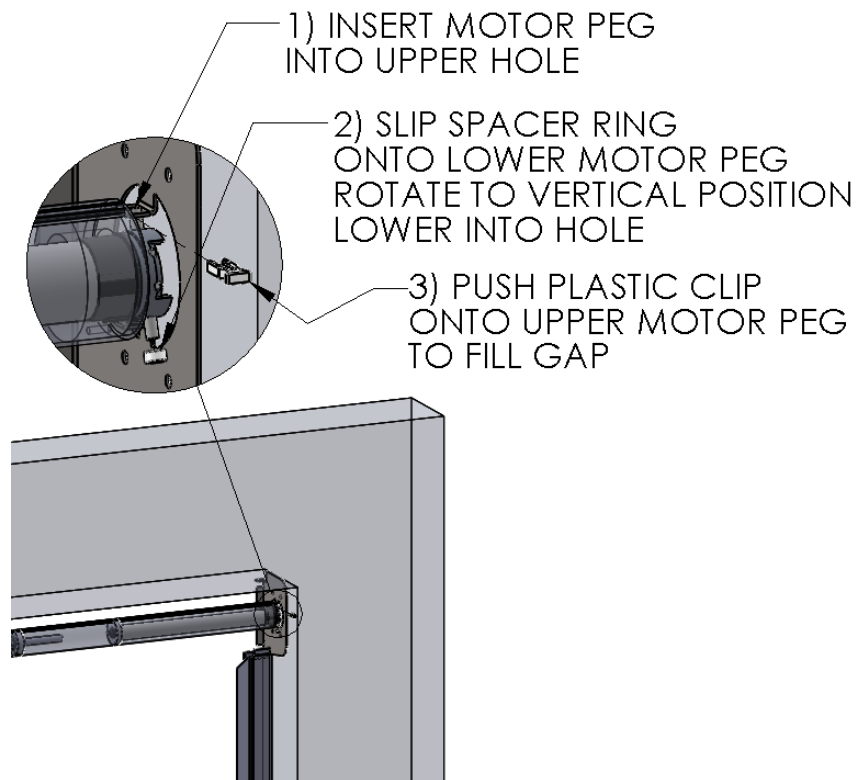

Figure 4 INSTALL MOTOR SIDE OF ROLL ASSEMBLY
**NOTE:** Use two (2) people, and two ladders at minimum, to install the Header Assembly.
2. At the right side, insert the Upper Motor Peg fully into upper hole of R.H. Header Mounting Bracket. (Figure 4 INSTALL MOTOR SIDE OF ROLL ASSEMBLY)
3. Slip the plastic Ring onto Lower Motor Peg, then insert the Lower Motor Peg into the lower hole on the Header Mounting Bracket. (Figure 4 INSTALL MOTOR SIDE OF ROLL ASSEMBLY)
4. Insert the plastic Clip onto the Upper Motor Peg to fill space between the Bracket and Motor. (Figure 4 INSTALL MOTOR SIDE OF ROLL ASSEMBLY)